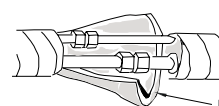

Fig.7
- (4) Wrap the indoor pipe and joint of connection pipe with insulating pipe, and then wrap it with tape.(As show in Fig.7)